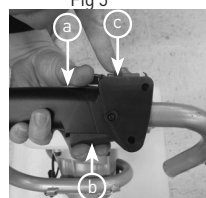

Fig 6
- 4) With right hand push down on the throttle lock-off (7) (Fig 6. a), squeeze the throttle (8) (Fig 6.b), then with your left hand push and hold the throttle lock-on (6) (Fig 6.c) button then release the release the throttle (8) (Fig 6.b) "and Throttle lock-off (7) (Fig 6.a).